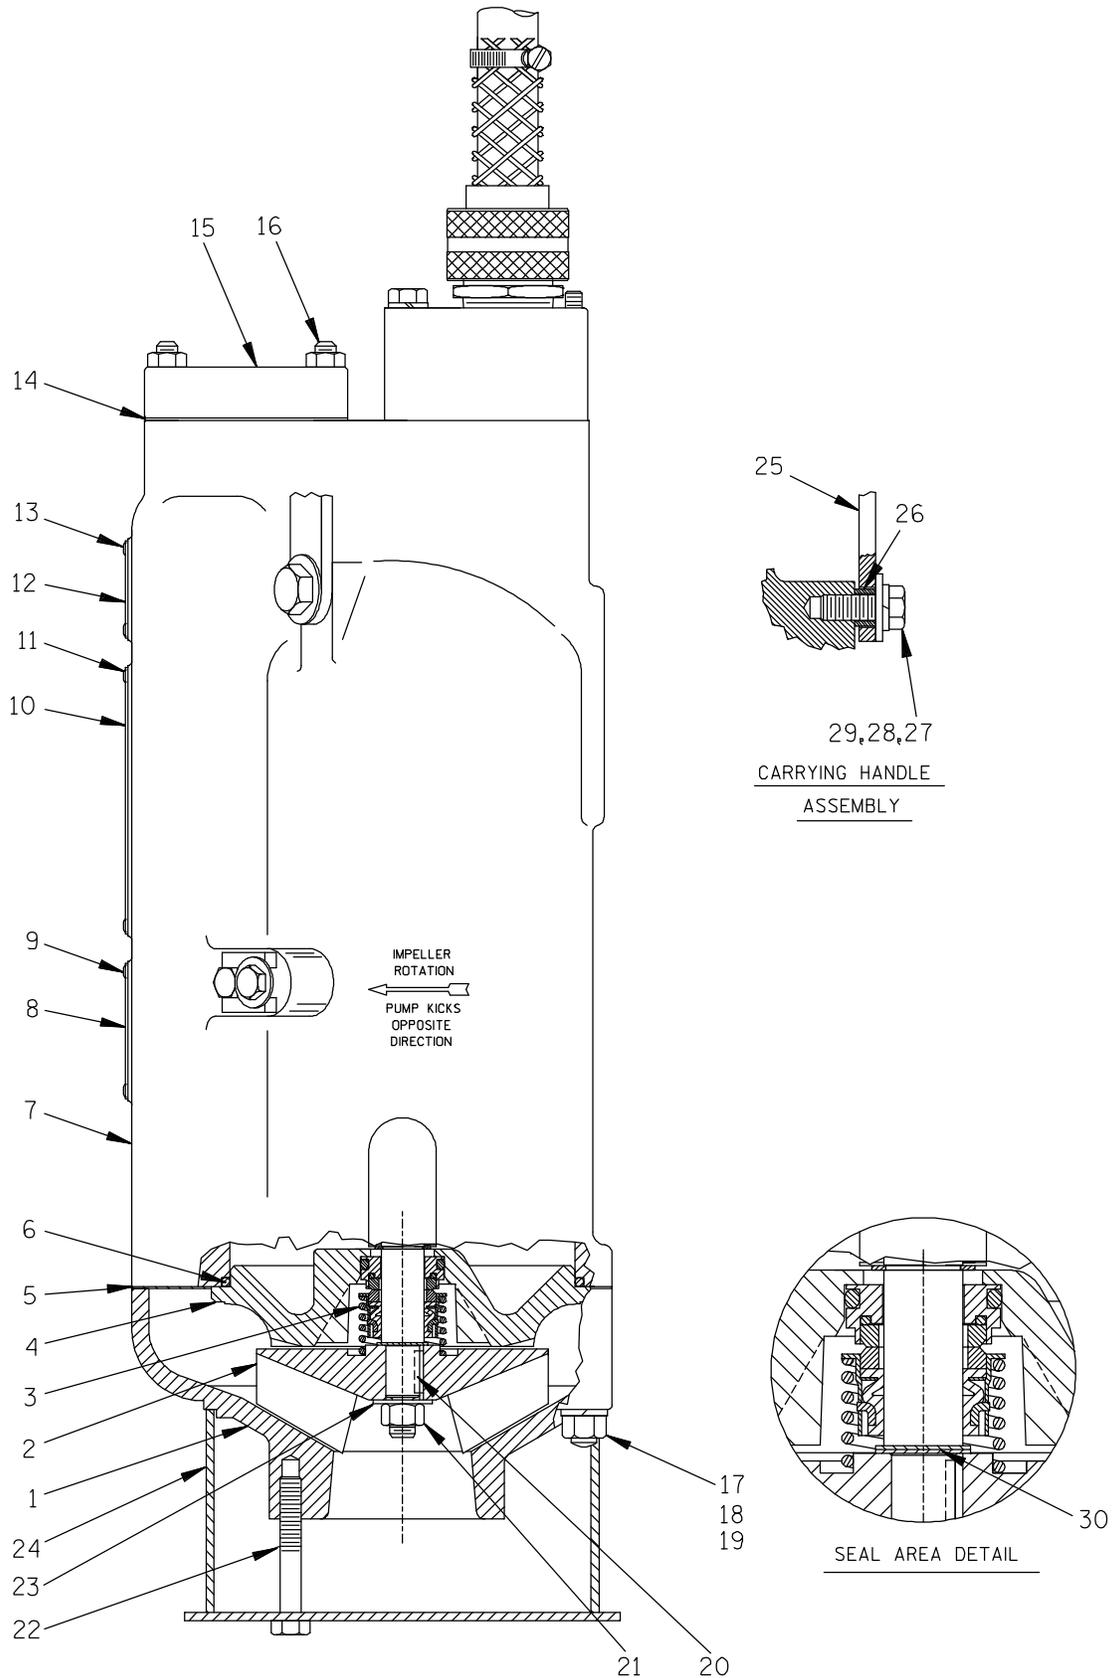
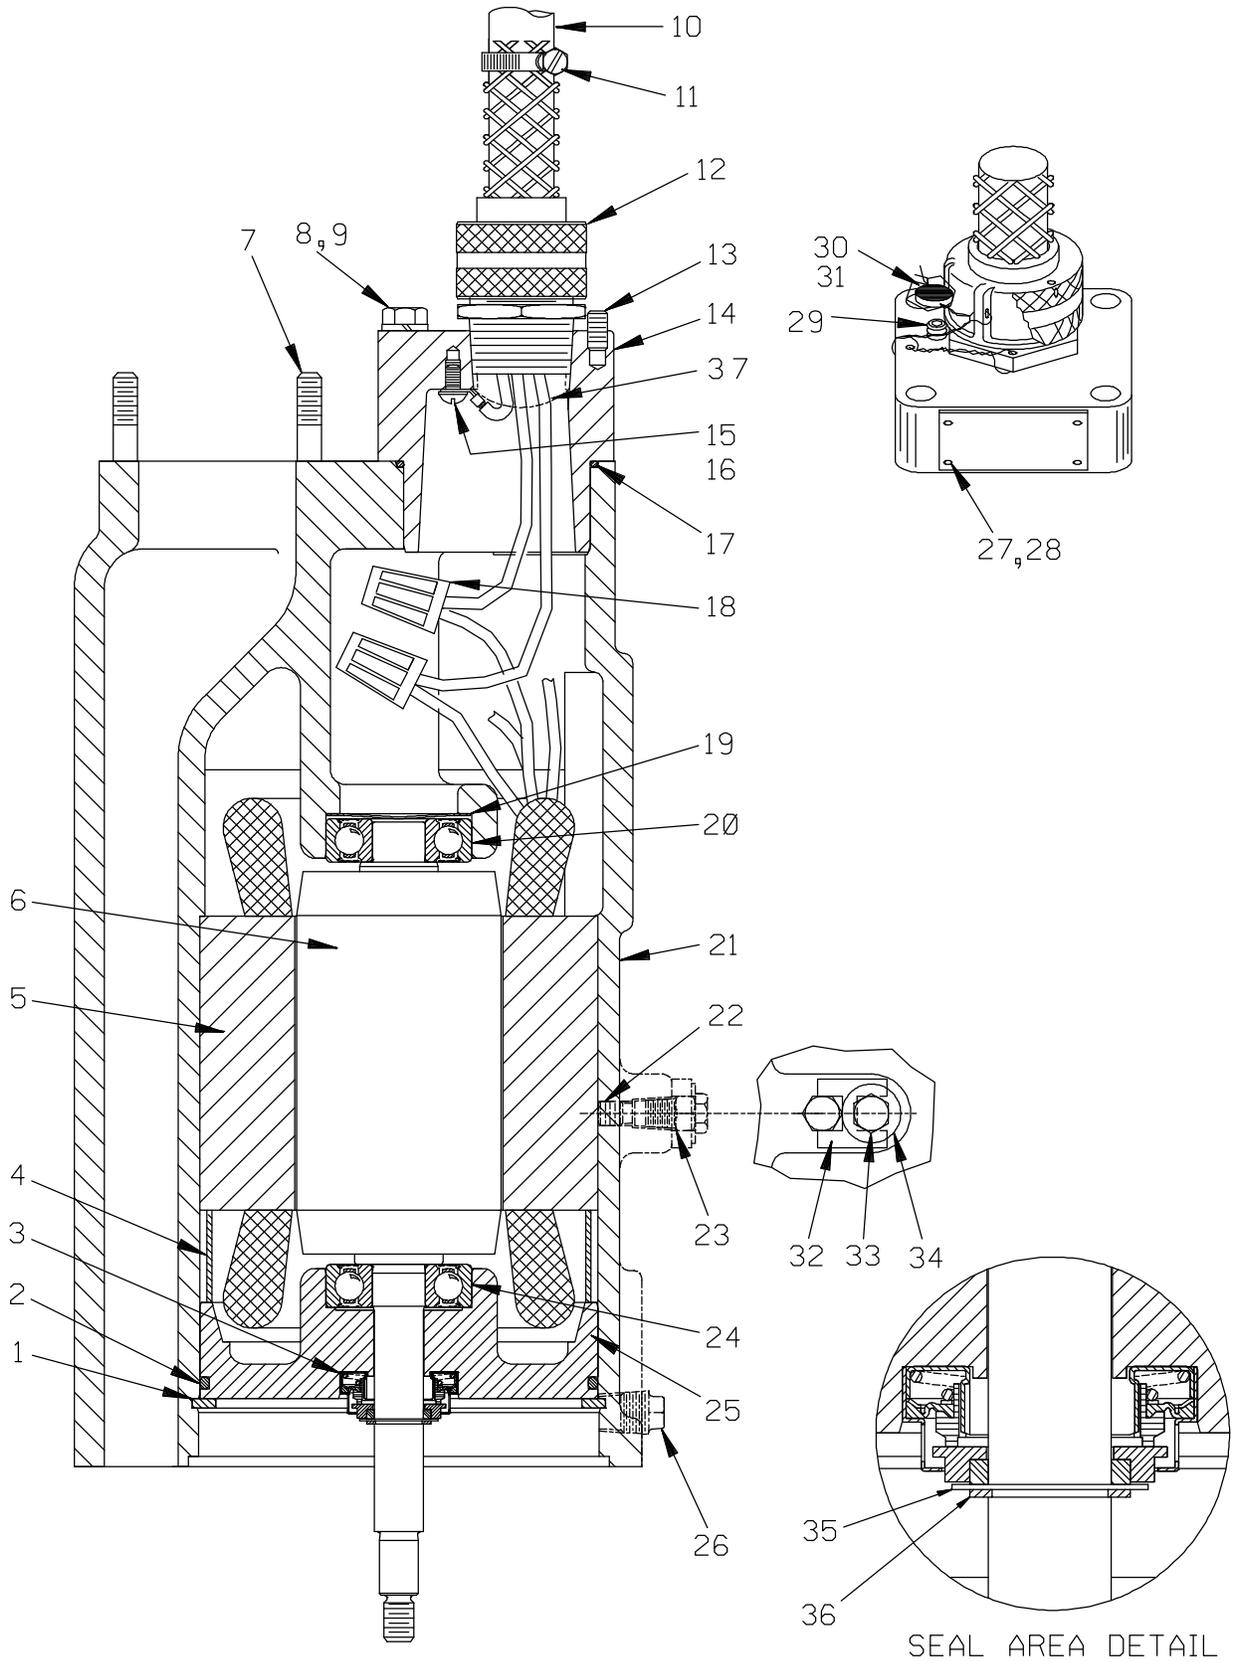

Figure C-1. Typical SM2E Series Pump Assembly
Figure C-2. SM2E Pump Motor Assembly
The maintenance and repair instructions in this manual are keyed to the sectional views, Figures C-1, C-2 or C-3, and the corresponding parts identification lists. Refer to the separate Parts List Manual for replacement parts.
References are to Figure C-1 and Figure C-2.
(Figure C-1)
(Figure C-2)
It is recommended that the pump be positioned upside-down during disassembly. To hold the pump in the inverted position, screw a pipe in the discharge flange (15) and clamp it in a large vise. Be careful not to damage the terminal housing and cable assembly (10, Figure C-2) while in this position. Use adequate equipment and personnel to safely handle the pump until it is secured. If invert-
Carefully remove the seal spring. Lubricate the rotor shaft (6, Figure C-2) and work oil under the bellows assembly. Slide the hooked ends of two stiff wires along the shaft to pull the rotating portion of the seal from the shaft.